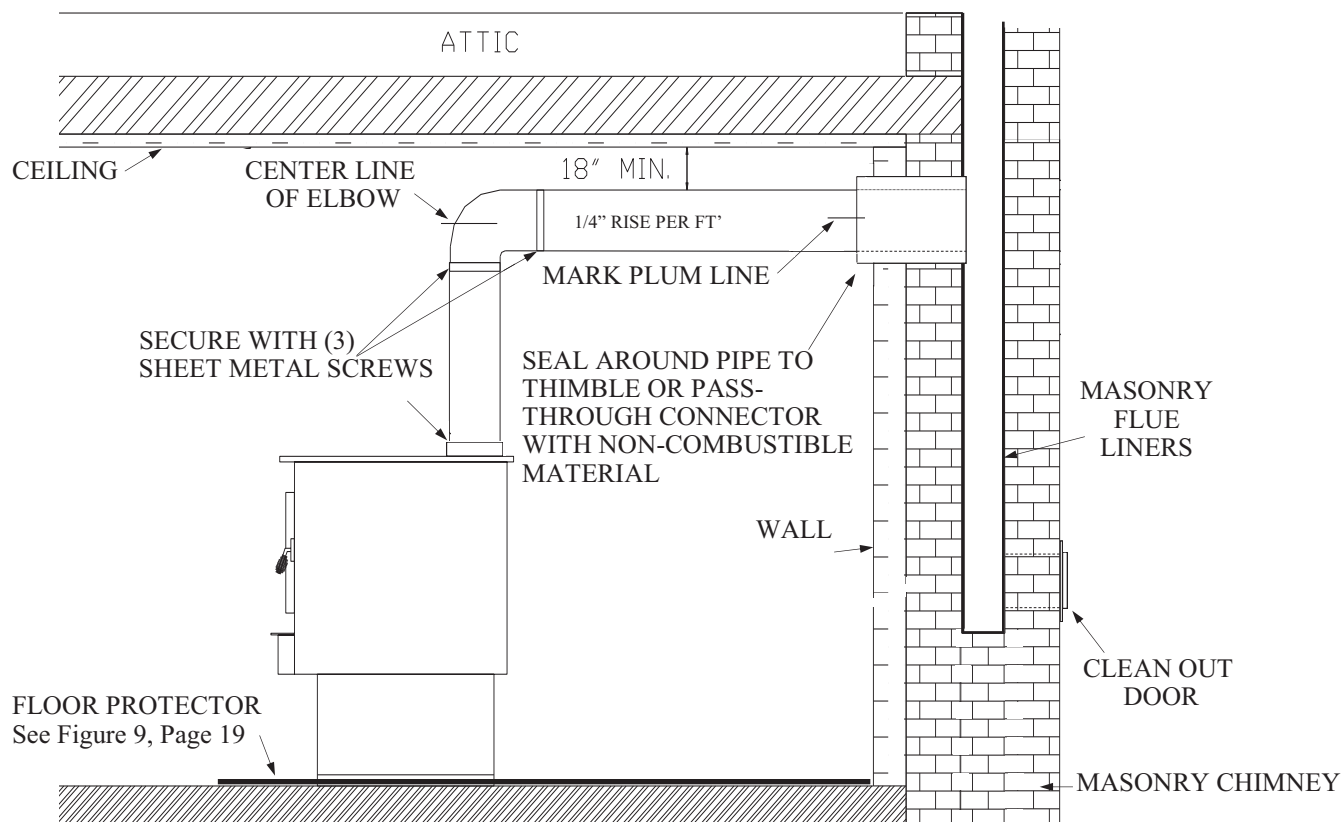

Figure 16
1. Before connecting these units to a masonry chimney, determine that masonry flue pass-through connector thimble meets NFPA-211 Code and local building codes and is a minimum of 18" from ceiling. If connector thimble does not meet these codes, the pass-through connector must be modified. (See Figure 16)